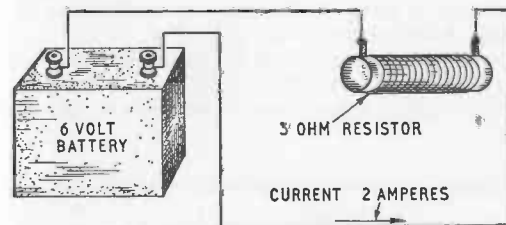

Fig. 2. Showing voltage, resistance and current.
Ohm's Law. All circuits have some resistance, due to connecting wires, motor windings, lamps, and other items. Fig. 2 shows a battery (or other source of current) connected to a resistor, which may be taken as representing circuit resistance, or a lamp or motor.
Current (I), Voltage (V or E) and Resistance (R) are related in such a way that if two are known the third can be found. This is Ohm's Law. In Fig. 2, or any similar circuit:—